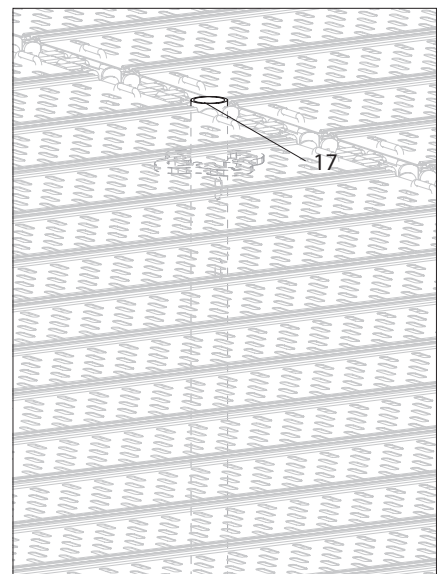

Fig. A2.04b
A deck surface without protruding tube ends can be produced with the Top Standard EVT 96 (17). (Fig. A2.04b)